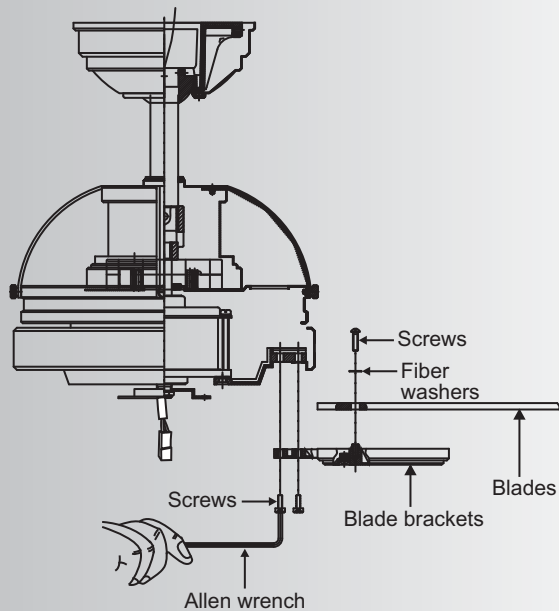

Fig. 15
Step 1. Attach a blade to a blade bracket using the screws and fiber washers provided. (Fig. 15)
Step 2. Attach each blade assembly to the motor using the screws and Allen wrench provided. (Fig 15)